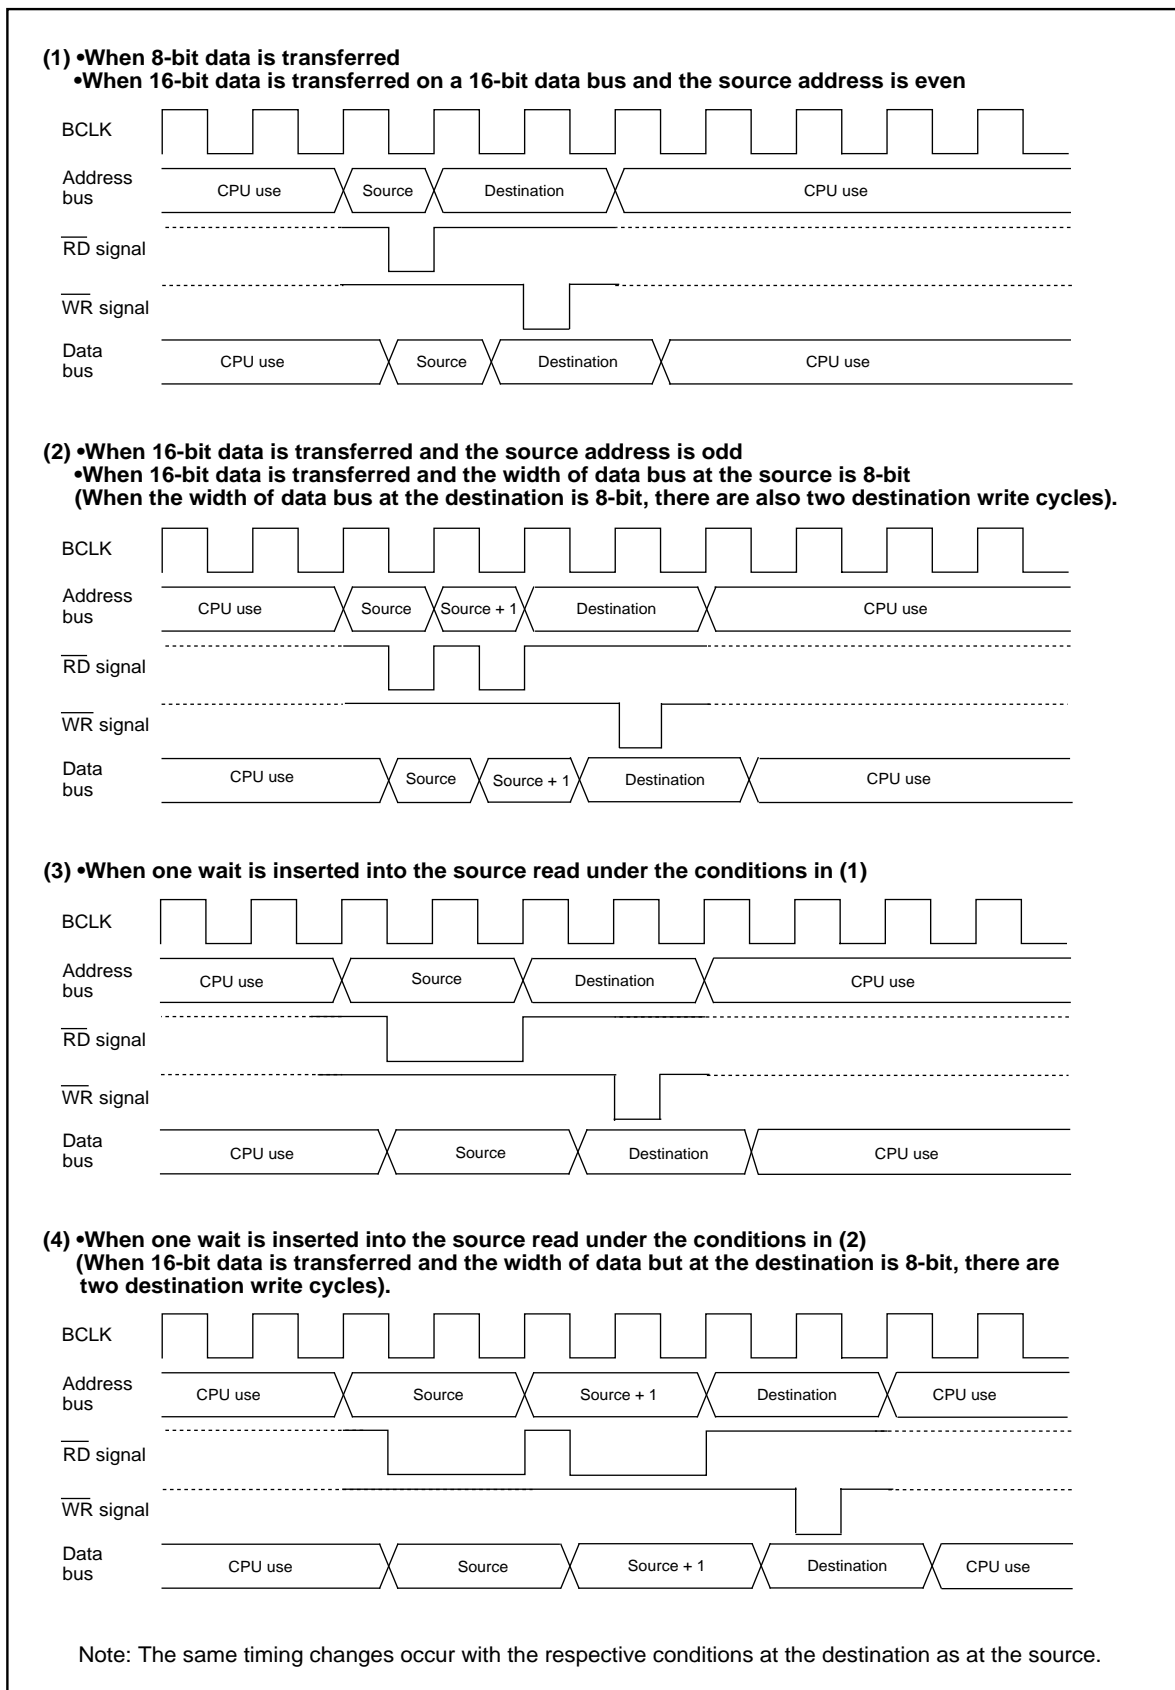

Figure 11.6 Example of the transfer cycles for a source read
Figure 11.6 shows the example of the transfer cycles for a source read. Figure 11.6 shows the destination is external area, the destination write cycle is shown as two cycle (one bus cycle) and the source read cycles for the different conditions. In reality, the destination write cycle is subject to the same conditions as the source read cycle, with the transfer cycle changing accordingly. When calculating the transfer cycle, remember to apply the respective conditions to both the destination write cycle and the source read cycle. For example (2) in Figure 11.6, if data is being transferred in 16-bit units on an 8-bit bus, two bus cycles are required for both the source read cycle and the destination write cycle.